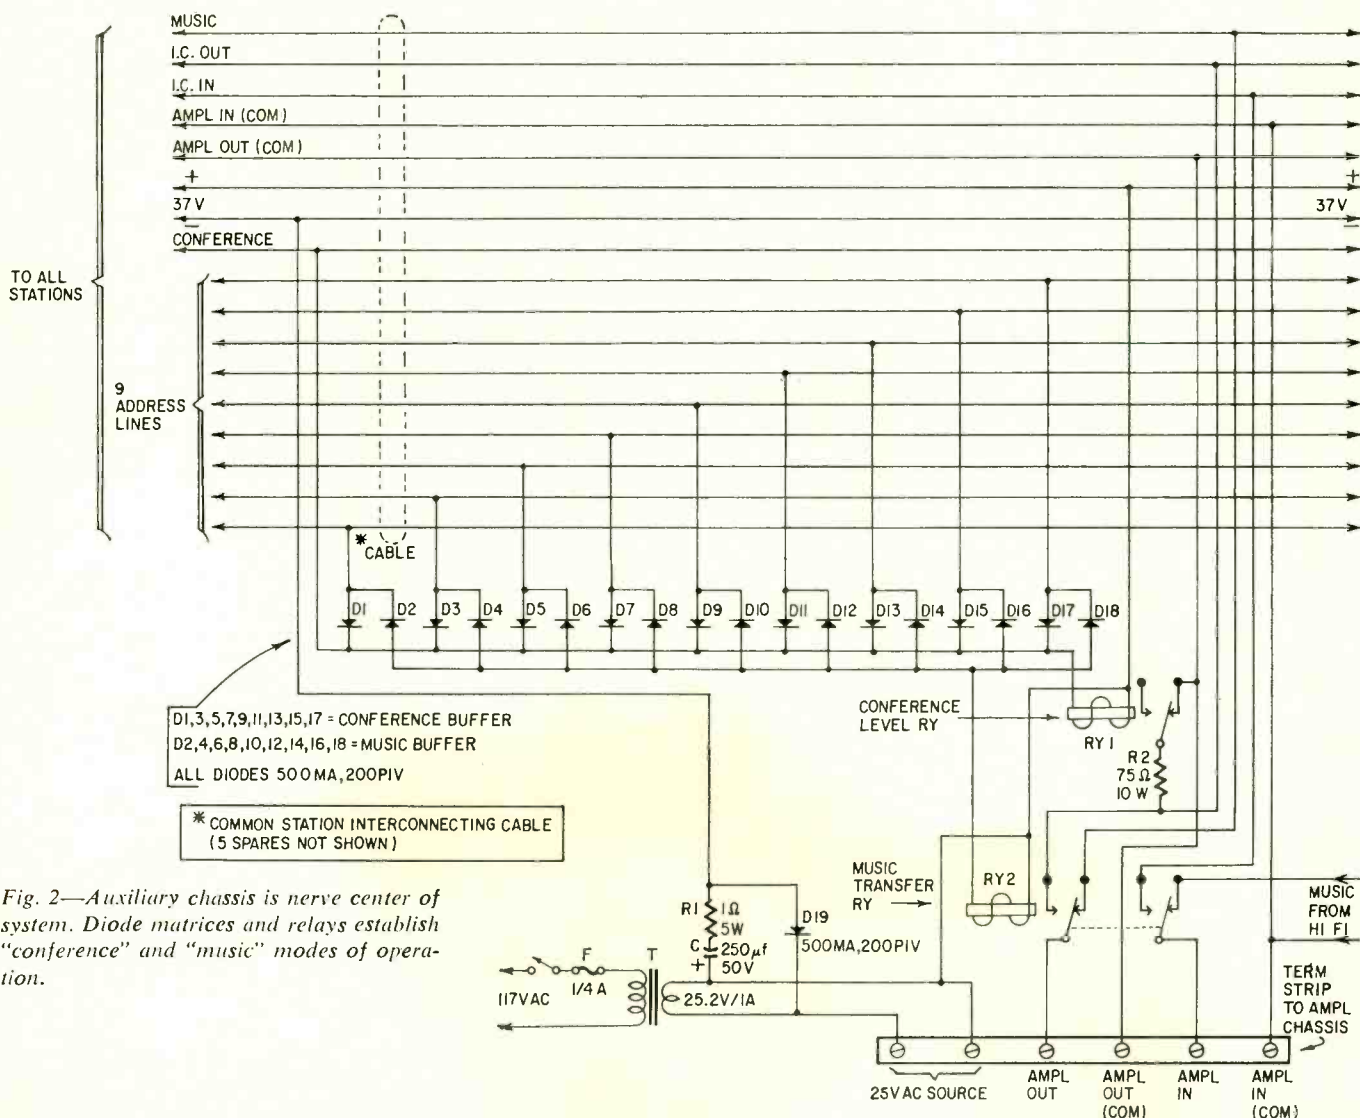

Fig. 2—Auxiliary chassis is nerve center of system. Diode matrices and relays establish "conference" and "music" modes of operation.
When the key (lever) switch, S2 in Fig. 1, is depressed, the now-microphone is connected through its transformer to two wires running to the amplifier input through the music transfer relay in Fig. 2. These two wires should be a twisted pair to minimize hum pickup by induction from power lines in the walls. When a station is addressed, and S1 in Fig. 1 is not set to OFF, the station's relay pulls in. This connects the now-speaker through its transformer through the undepressed key switch (S2) to two wires connected to the amplifier output through the music transfer relay in Fig. 2. This wire pair should also be twisted.
Individual relays in each station are excited directly from one of nine lines. When the conference line, the tenth, is energized, all station relays are excited through the circuitry of Fig. 2. The diodes (D1-D17) in the conference buf-
- Parts list, Fig. 2**